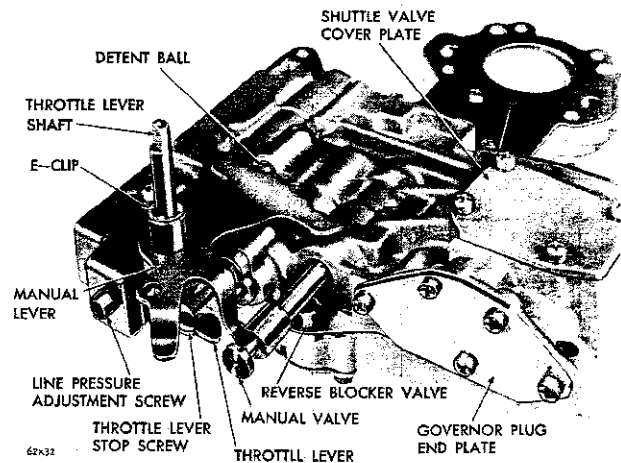

Fig. 57—Valve Body Controls (Assembled View)
(9) Invert the valve body and lay it on a clean cloth or paper. Remove E-clip from the throttle lever shaft (Fig. 57). Remove any burrs from the shaft, then while holding the manual lever detent ball and
(10) Remove the manual valve, carefully slide it out of the valve body with a rotating motion.
(11) Remove throttle lever and shaft from the valve body.
(12) Remove the shuttle valve cover plate (Fig. 57). Remove E-clip from the exposed end of the shuttle valve.
(13) Remove the throttle lever stop screw assembly